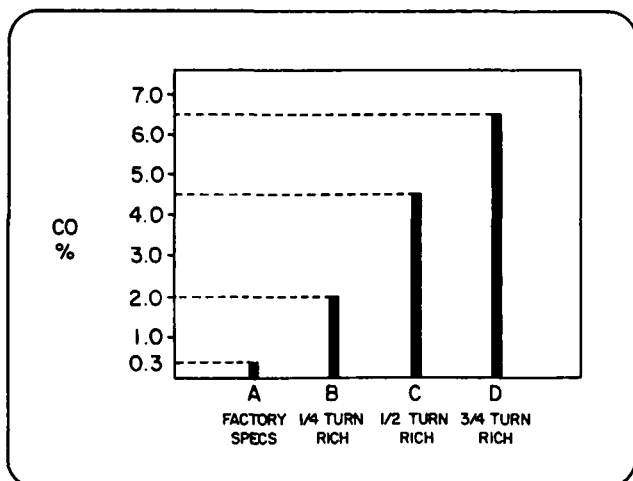

Figure 3-1
- a) Point A in Figure 3-1 shows a recommended factory idle mixture setting. This setting had CO emissions of .3%.
NOTE: The readings shown in Figures 3-1, 3-2 and 3-3 are representative. Some vehicles show larger increases in emissions levels while others show less of an increase.